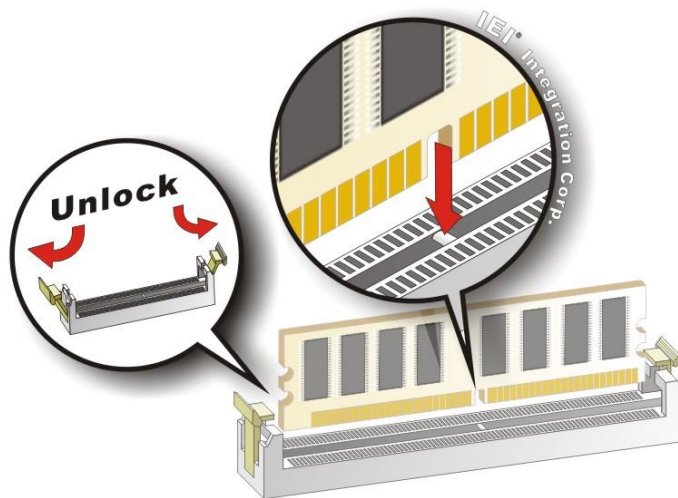

Figure 4-8: DIMM Installation
To install a DIMM, please follow the steps below and refer to **Figure 4-8**.
- Step 1: Open the DIMM socket handles.** Open the two handles outwards as far as they can. See **Figure 4-8**.
- Step 2: Align the DIMM with the socket.** Align the DIMM so the notch on the memory lines up with the notch on the memory socket. See **Figure 4-8**.
- Step 3: Insert the DIMM.** Once aligned, press down until the DIMM is properly seated. Clip the two handles into place. See **Figure 4-8**.